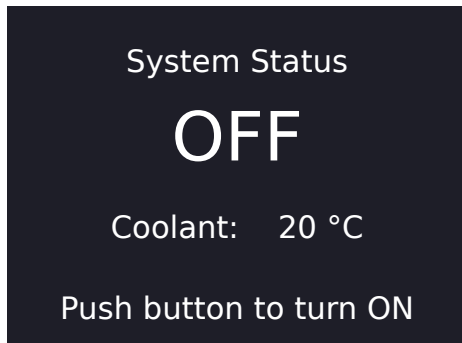

Fig. 15 - Standby screen
3. When power is connected, the Cooler enters standby mode and the indicator appears solid red. The LCD indicates the system status as OFF (Fig. 15).